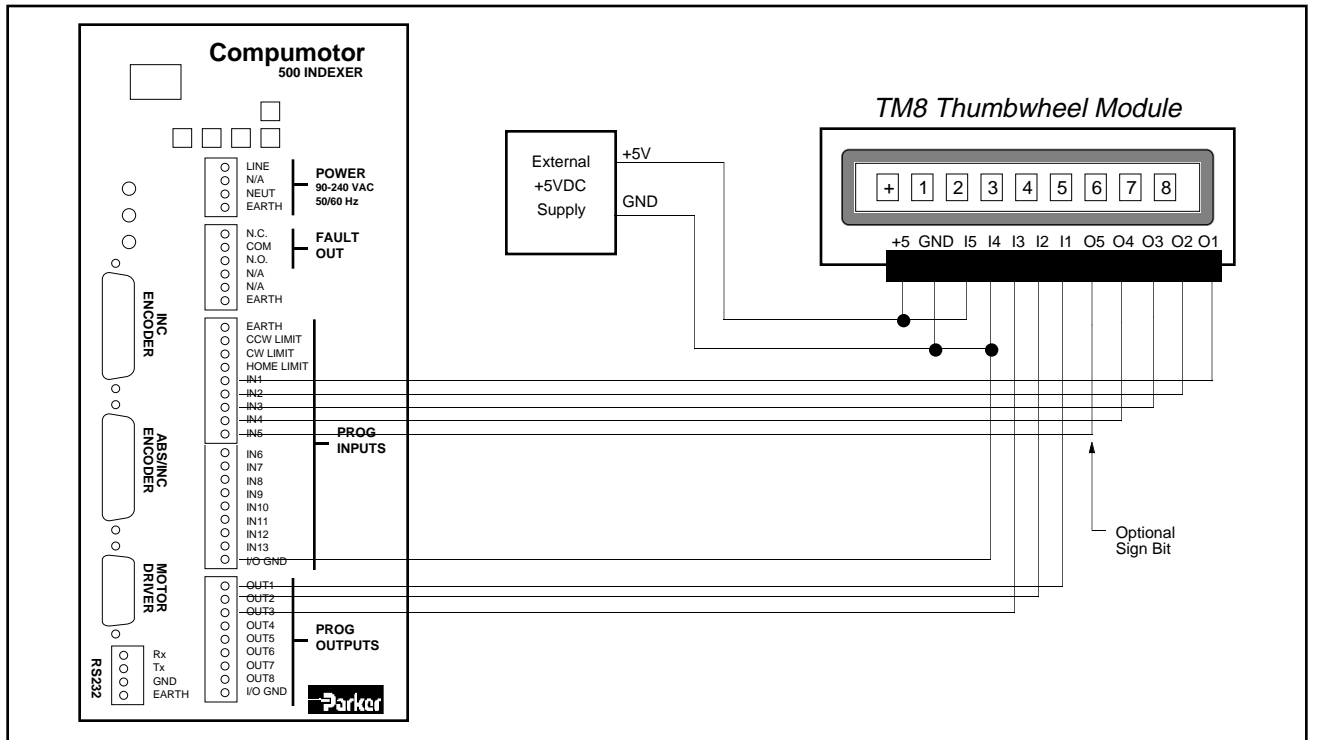
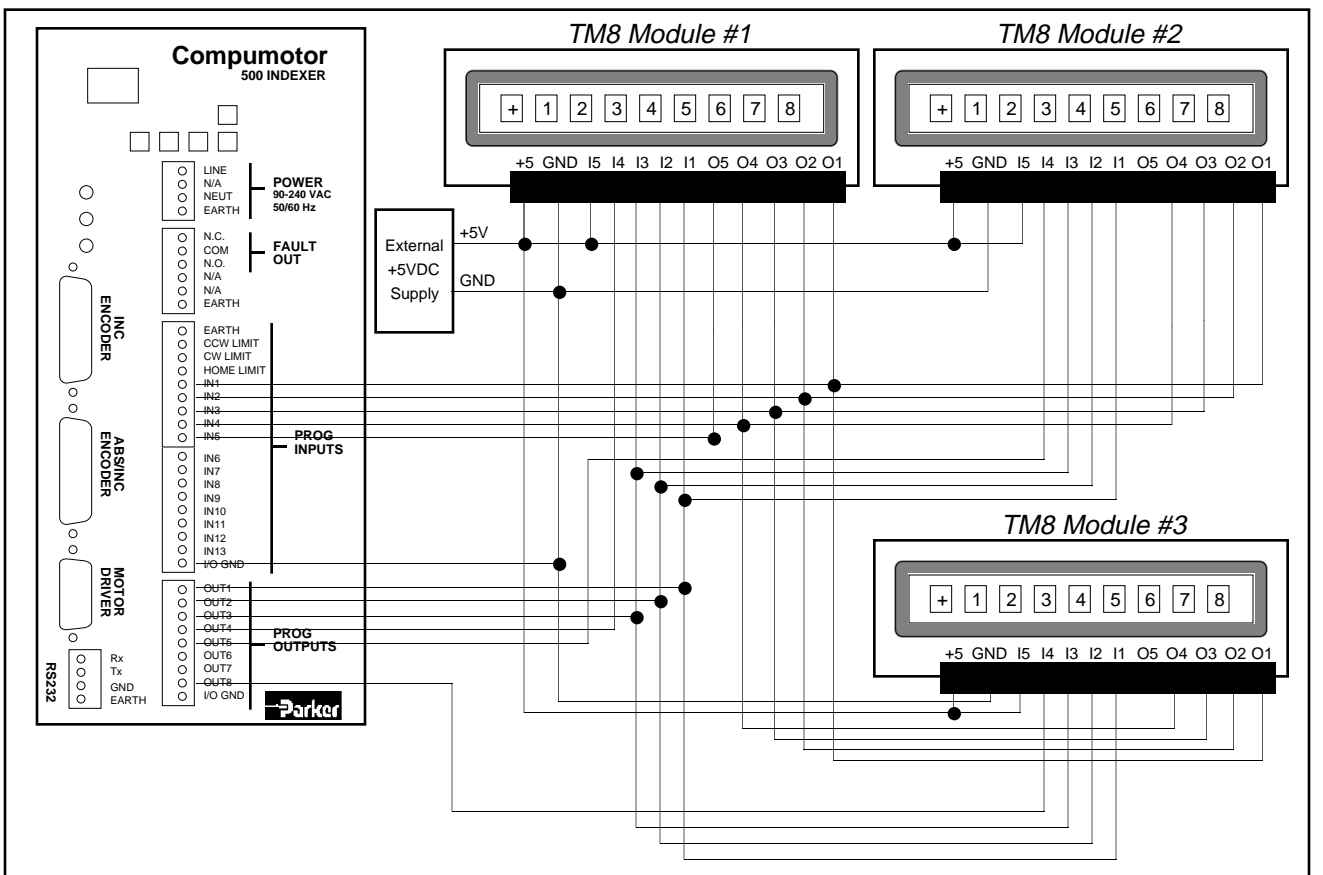

Figure 4-13. Wiring One TM8 Thumbwheel Module to the 500
Figure 4-14. Wiring Multiple TM8 Thumbwheel Modules to the 500
- STEP ①** To select the TM8 module, first type the `TW1` command to enable the *TM8 Mode*.
- STEP ②** Wire your TM8 module to the 500 as shown in Figure 4-13. If you are using more than one TM8 Module (the maximum allowed is six for each 500), wire the modules as in Figure 4-14.
I4 on the TM8 module acts as an enable input that is active low. I5 on the TM8 acts as an enable input that is active high. By using the first three Model 500 outputs (OUT1 - OUT3) as *strobe* outputs for decoding the thumbwheel digits, the remaining outputs can be used for selecting multiple thumbwheels. In Figure 4-14, the active low input (I4 on the TM8) functions as the *module select input*. One output line is dedicated to select a particular module. The three outputs that decode the digits are common to all modules used.